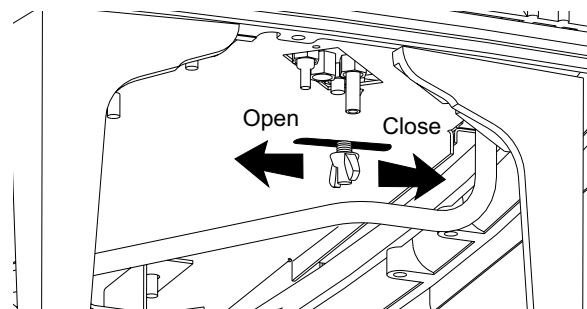

Figure 22. Locate and remove the Air Shutter wingnut from under the right side of the stove.
6. Reach under the stove and remove the Air Shutter wingnut from its stud. As you face the right side, it is the one closest to you. See fig. 22.
19. **Adjust the Air Shutter.** You will need to position the shutter to provide a gas/air mixture that will achieve the best flame picture with your particular installation. Start with the shutter stem at the half-way position in the slot in the bottom of the stove. See figs. 22 and 25. Pushing the stem back will restrict air, while pushing it forward will open the shutter and increase air. With some experimentation, you will find the shutter position that works best for your installation.